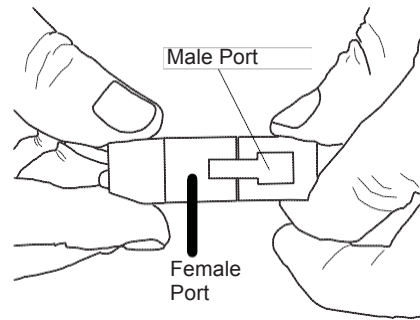

Figure 26 - Connecting Blower Wire to Wire Connector
9. Insert the blower connector (male port) into the female port on the wire connector. This protects the jacket in the fireplace (see Figure 26).